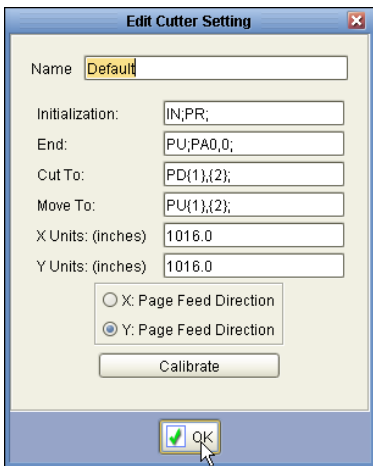

Figure 9—Edit Cutter Settings
6. In the Device Settings area, select the Default cut setting, and click **Configure**. This opens the Edit Cutter Settings dialog (see Figure 9). These settings are the cutting equivalent to Quick Sets.